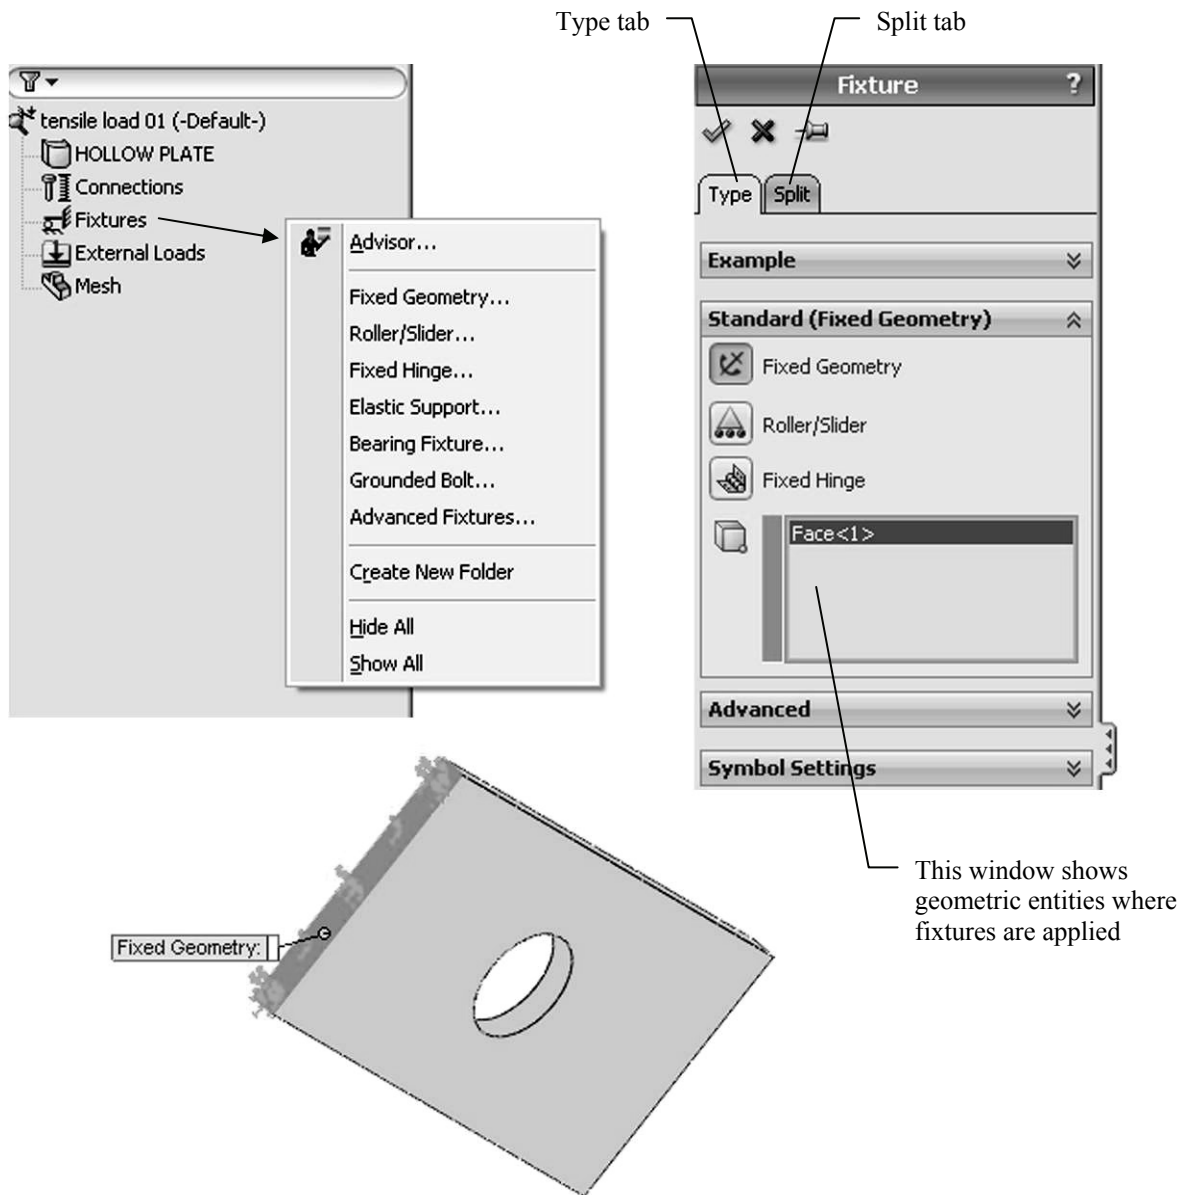

Figure 2-10: Pop-up menu for the Fixtures folder and Fixture definition window
Having assigned the material, we now move to defining the loads and restraints. To display the pop-up menu that lists the options available for defining restraints, right-click the *Fixtures* folder in the *tensile load 01* study (Figure 2-10).
- ❑ Right-clicking the *Fixtures* folder and selecting **Hide All** or **Show All** in the pop-up menu shown in Figure 2-10, or